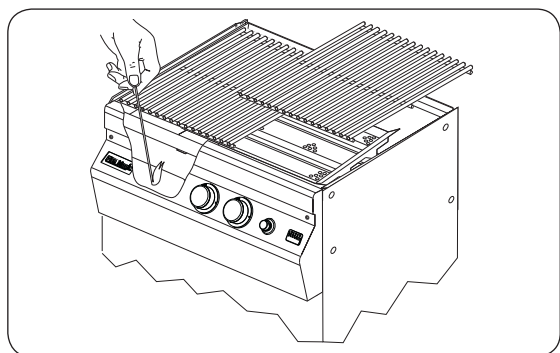
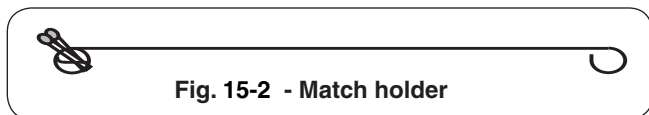

Fig. 15-3 - Manual lighting
Fig. 15-2 - Match holder
**REMEMBER:** FOR SAFE MANUAL LIGHTING, PLACE A BURNING MATCH OR BUTANE LIGHTER BESIDE THE BURNER - **THEN TURN ON THE GAS** (see Fig. 15-3).
2. Insert either a burning long-barrel butane lighter, a burning long-stem match, or a burning match held by a wire extension holder (Fig. 15-2) through the cooking grids to the burner. (Fig. 15-3). For backburners, hold the flame against the perforated material of the backburner. For sideburners, hold the flame against the burner.